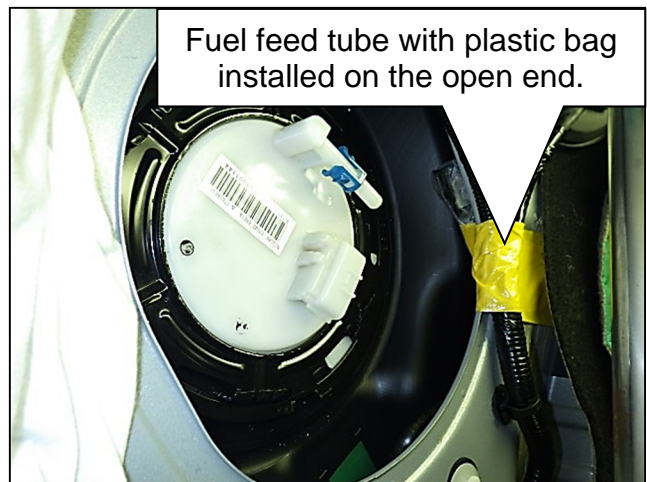

Figure 12
17. Cover the open end of the fuel feed tube with a plastic bag or similar item, and then move the fuel feed tube out of the way (Figure 12).